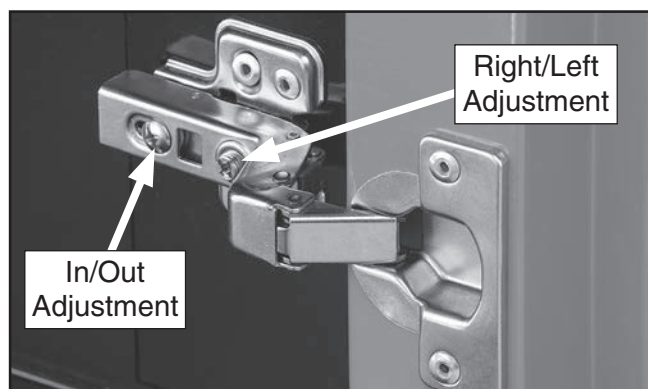

Figure 4. Hinge adjustments.
2. Adjust door hinges using screws shown in **Figure 4**.